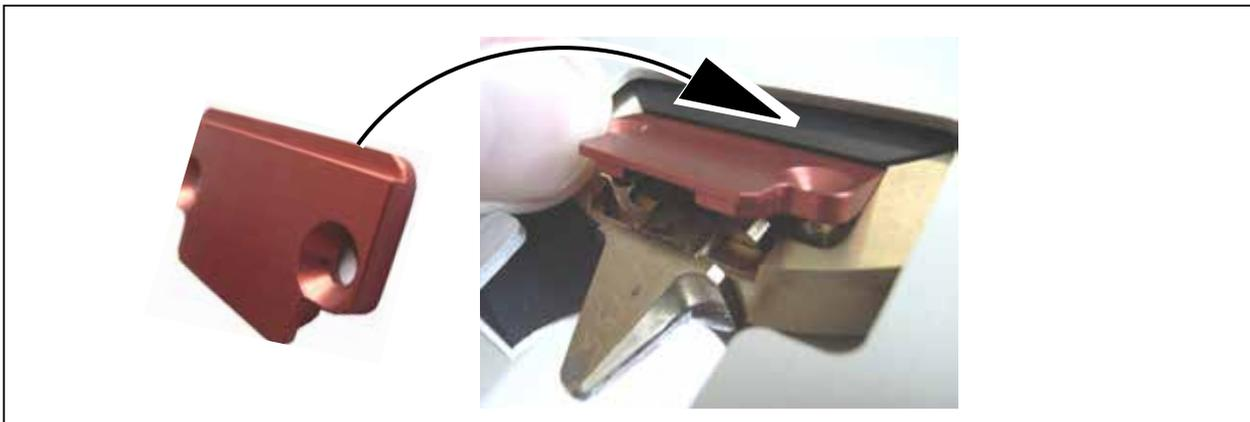

Fig. 15.5: Putting in the retaining plate
9. Put the retaining plate into the rotational disc with an angle of about 45 degrees, ensuring that the guide groove is pointing upwards. Then it has to be pushed down into the recess (please see Fig. 15.5).